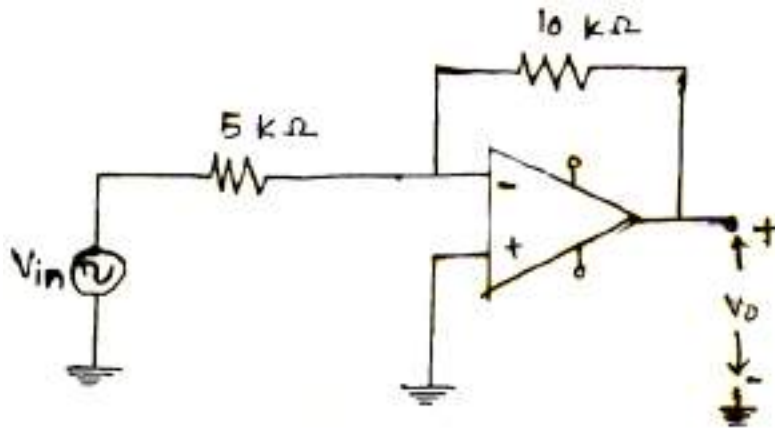

Figure 6 Q. 12(b)
- b) Explain the effect of offset voltage on active filter performance. The input to the inverter shown in figure 6 is a sine wave of an amplitude 5 volts. If the slew rate of the opamp is 1V/sec, find the frequency at which the slew rate limiting occurs. 8